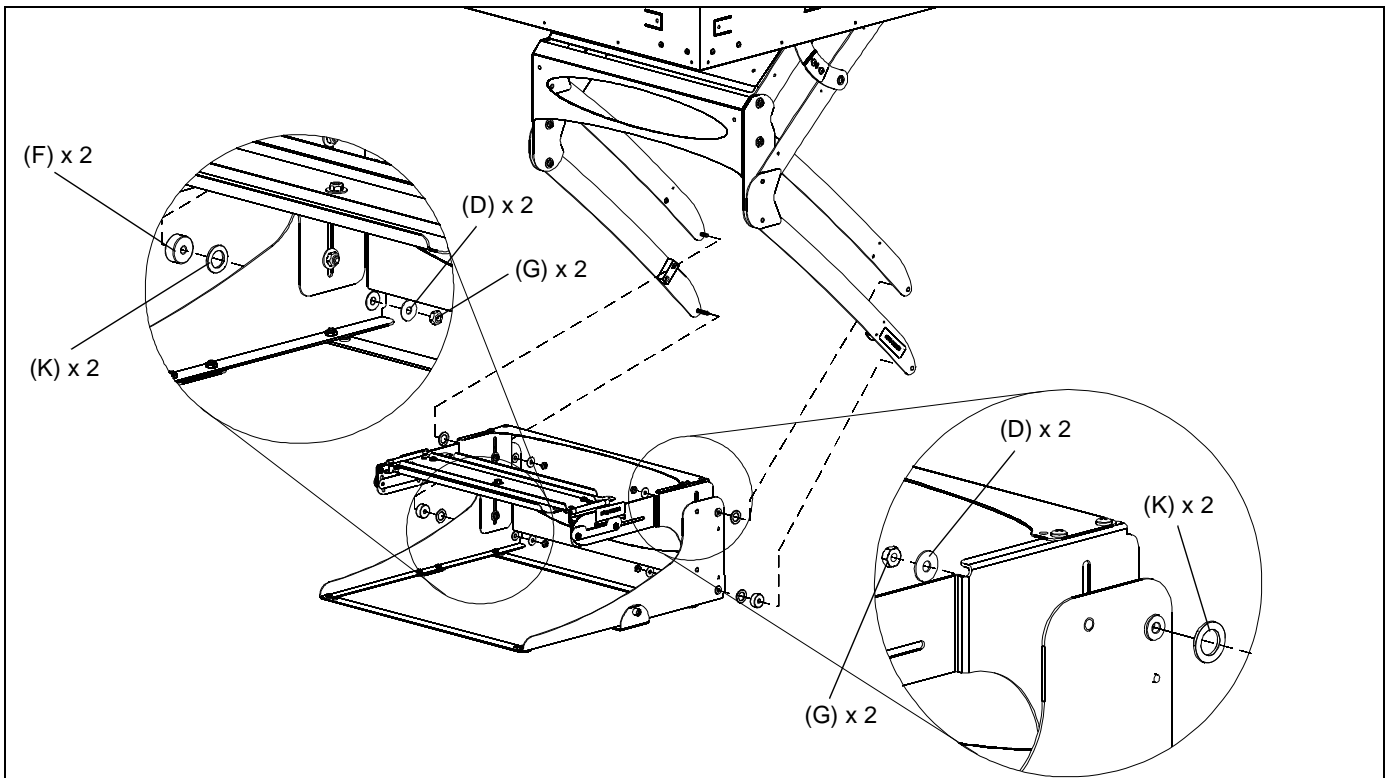

Figure 3
3. Reinstall projector cradle to SL236 lift. (See Figure 3)
- Use two nylon spacers (K), two flat washers (D) and two locknuts (G) for rear lift arms.
- Use two steel spacers (F), two nylon spacers (K), two flat washers (D) and two locknuts (G) for front lift arms.